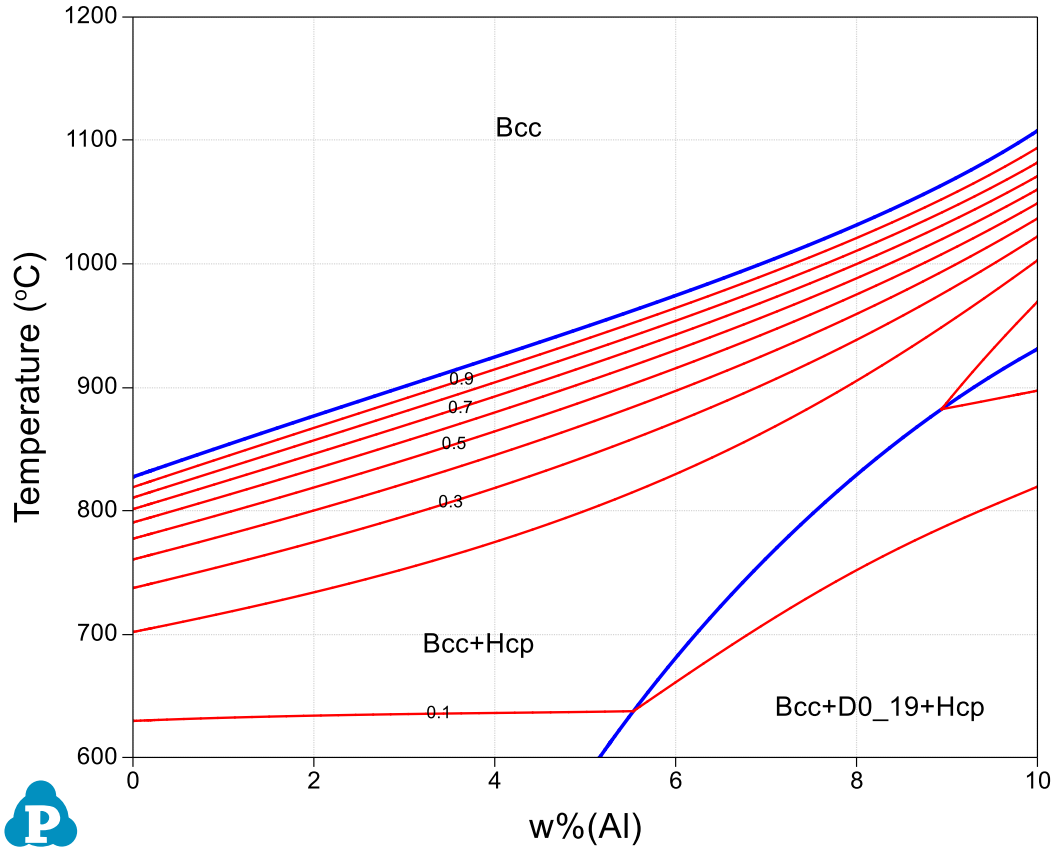

Figure 1.19.3: Contour diagram of the β phase fraction on the isopleth of Ti-Al-4V-0.1O-0.02N (wt%)
- Figure 1.19.3 shows the isopleth Ti-Al-4V-0.1O-0.02N (wt%) with contour lines of fractions of the β phase. It clearly shows how the fraction of the β phase varies with temperature and composition. This plot provides a guidance on the selection of alloy composition and heat treatment condition if certain fraction of β phase is needed in the microstructure;